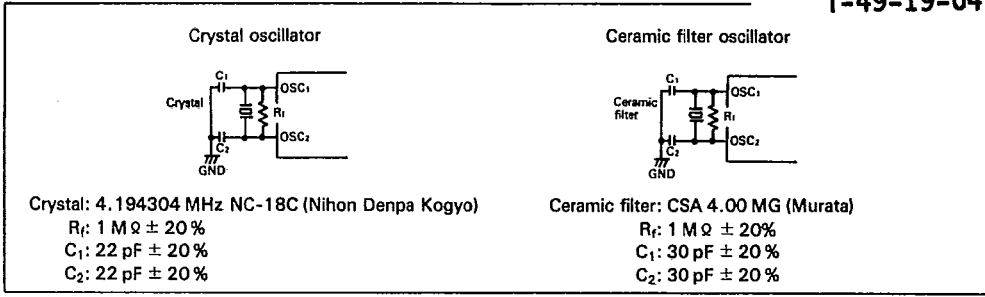

Figure 36. Oscillator Circuit
- Notes: 1. Oscillator stabilization time is the time until the oscillator stabilizes after V_{CC} reaches its minimum allowable voltage (3.5 V) after power-on, or after RESET goes high. At power-on or stop mode release, RESET must be kept high for at least t_{RC} . Since t_{RC} depends on the crystal or ceramic filter's circuit constant and stray capacitance, please get the manufacturer's advice when designing the RESET circuit. (See figure 36)